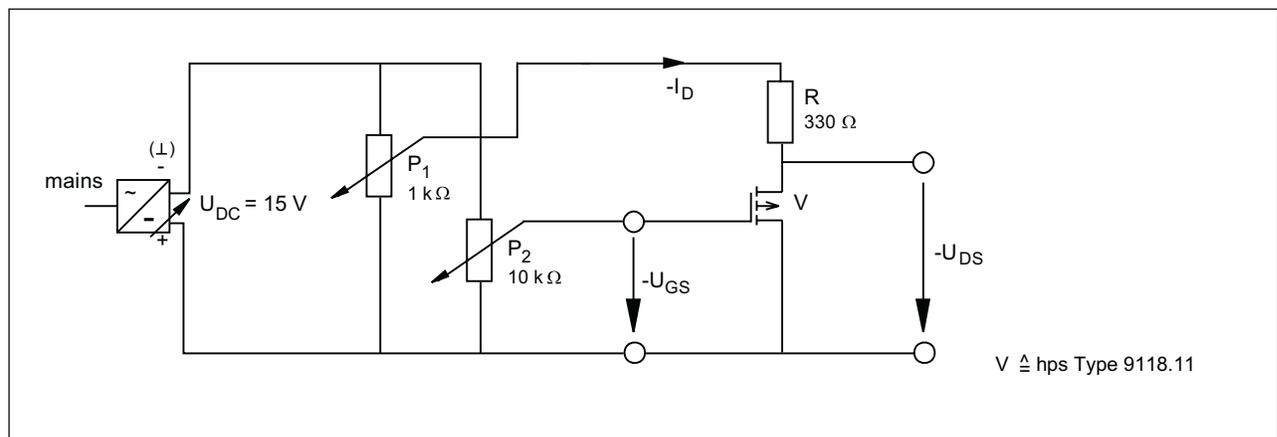

Fig. 6.2.2.1
- Set up the circuit as shown in Fig. 6.2.2.1. Set the gate/source voltages  $U_{GS}$  and drain/source voltages  $U_{DS}$  as listed in Table 6.2.2.1 and measure the corresponding drain current  $I_D$  with the multi-meter. Enter the values of the drain current  $I_D$  in Table 6.2.2.1.